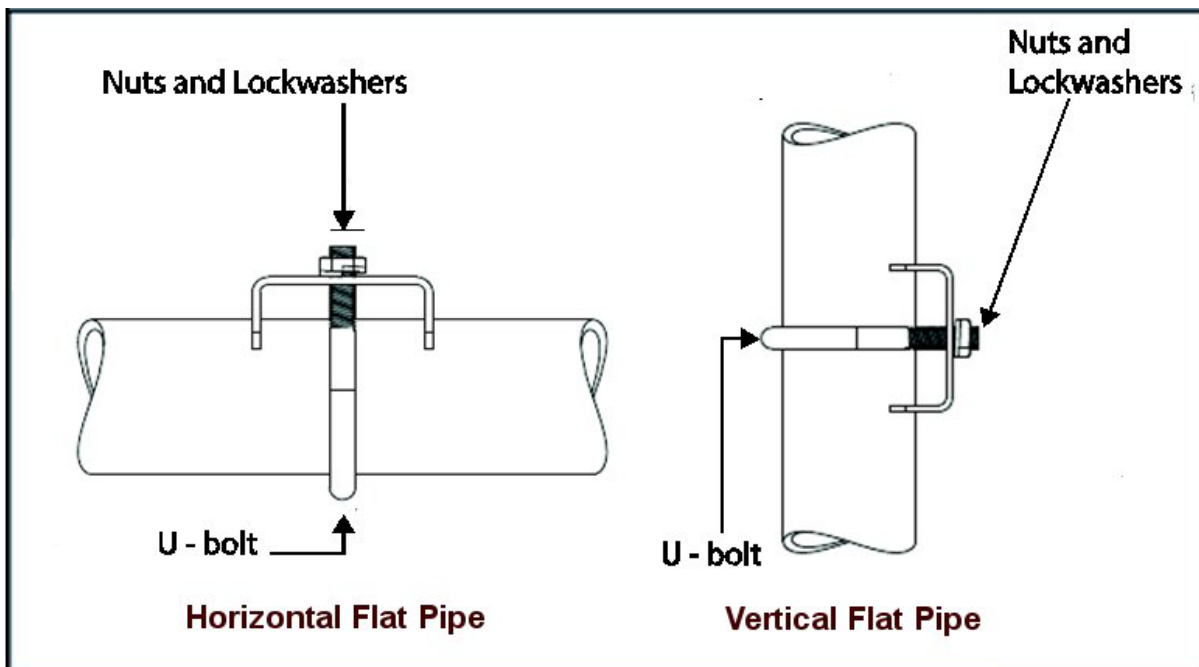
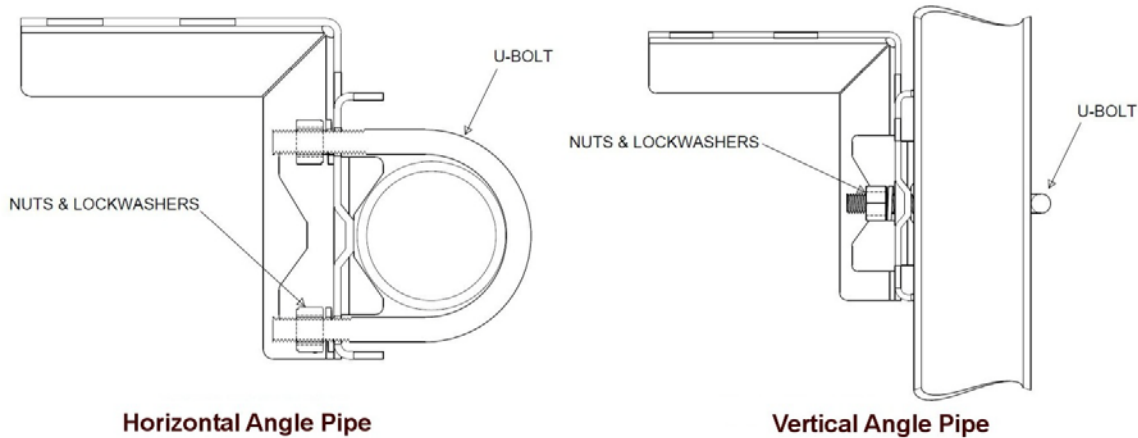

Figure 6 – Pipe Mounting Bracket Secured to a Horizontal or Vertical Flat Pipe
Figure 7 - Pipe Mounting Bracket secured to a Horizontal or Vertical Angle Pipe
1. Align the two mounting holes in the transmitter with the two slots in the mounting bracket and assemble the (2) M8 hex cap screws, (2) lockwashers and (2) flat washers provided. Rotate transmitter assembly to the desired position and torque the M8 hex cap screws to 27,0 Nm/20,0 Lb-ft maximum.
2. Pipe Mount Option: Refer to Figure 6 and Figure 7. Position the bracket on a 2-inch (50.8 mm) horizontal or vertical pipe, and install a “U” bolt around the pipe and through the holes in the bracket. Secure the bracket with the nuts, flat washers and lock washers provided.